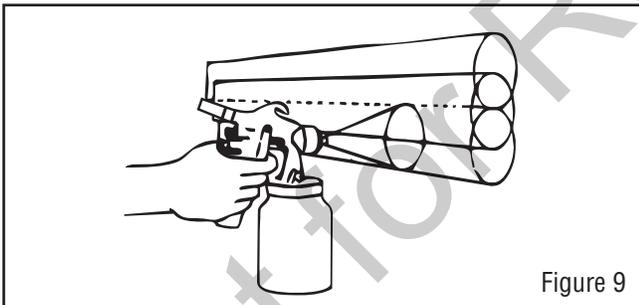

Figure 9
- Overlap strokes just enough to obtain an even and fine coat on the workpiece. (See Figure 9)